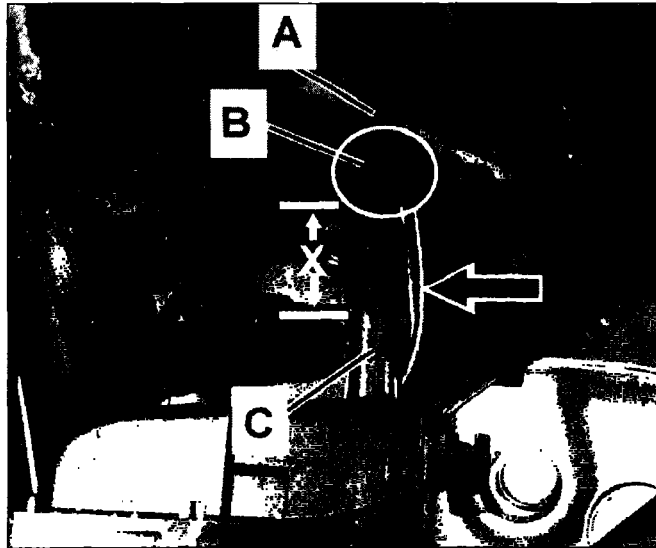

Figure 13
15. Secure ground wiring harness (arrow, Figure 13) to SBC wire harness (A) using two layers of fabric tape (B) in the circled area. Start taping approximately 35 mm (X = 35 mm, Figure 13) from end of connector cover receptacle (C).